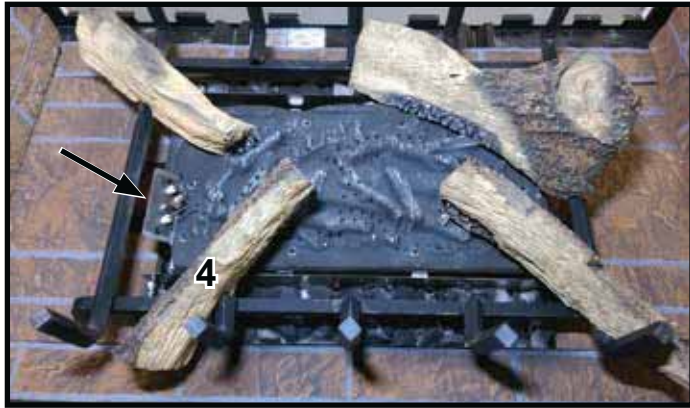
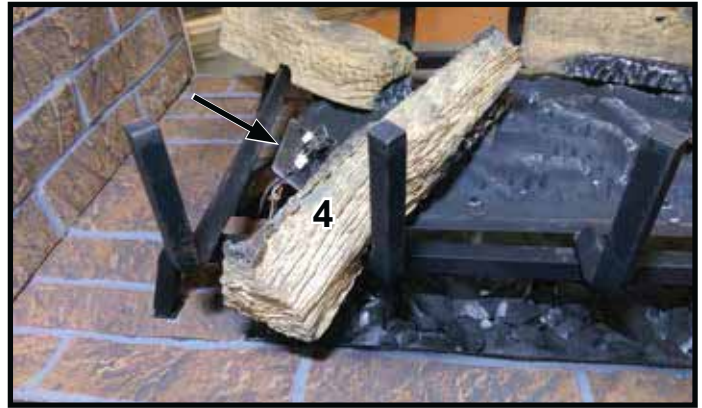

Figure 10. Log #4 from front showing grate tine groove.
Figure 11. Log #4 close-up on the side showing groove against tine.
**LOG NUMBER 4 (SRV2272-704):** Place Log #4 so that the groove on the bottom of the log rests on the grate bar as shown in Figure 10. Twist the log until the notch on the side of the log contacts the second grate tine from the left as shown in Figure 11. The end of the log should rest on a ridge on the burner as shown in Figure 10. Note that there are burner ports close to the log on both sides - the log must NOT block any burner ports.